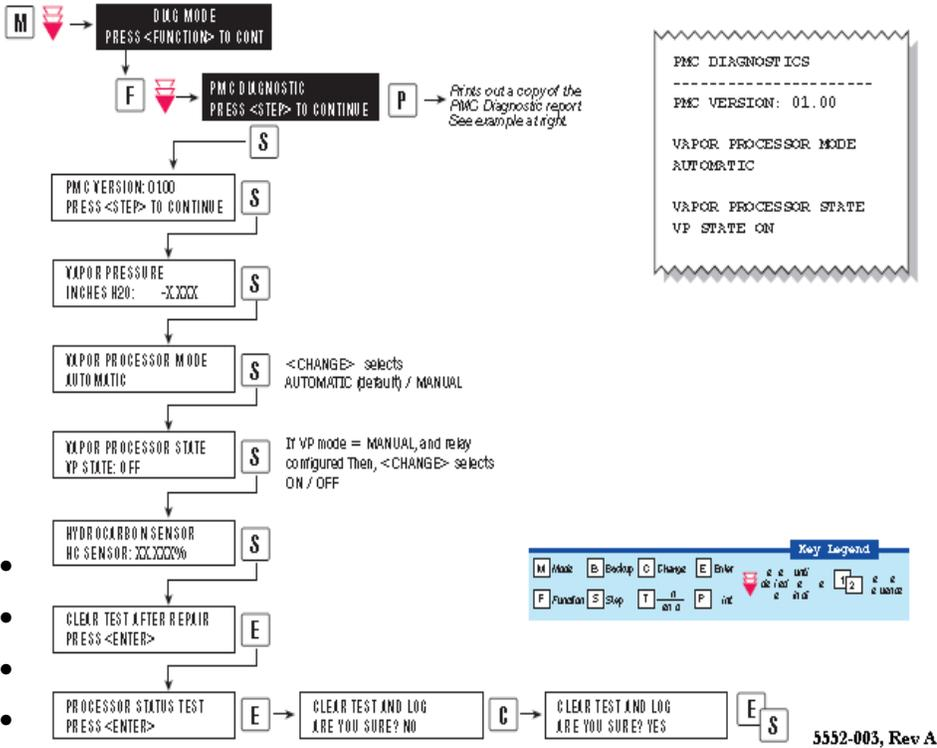
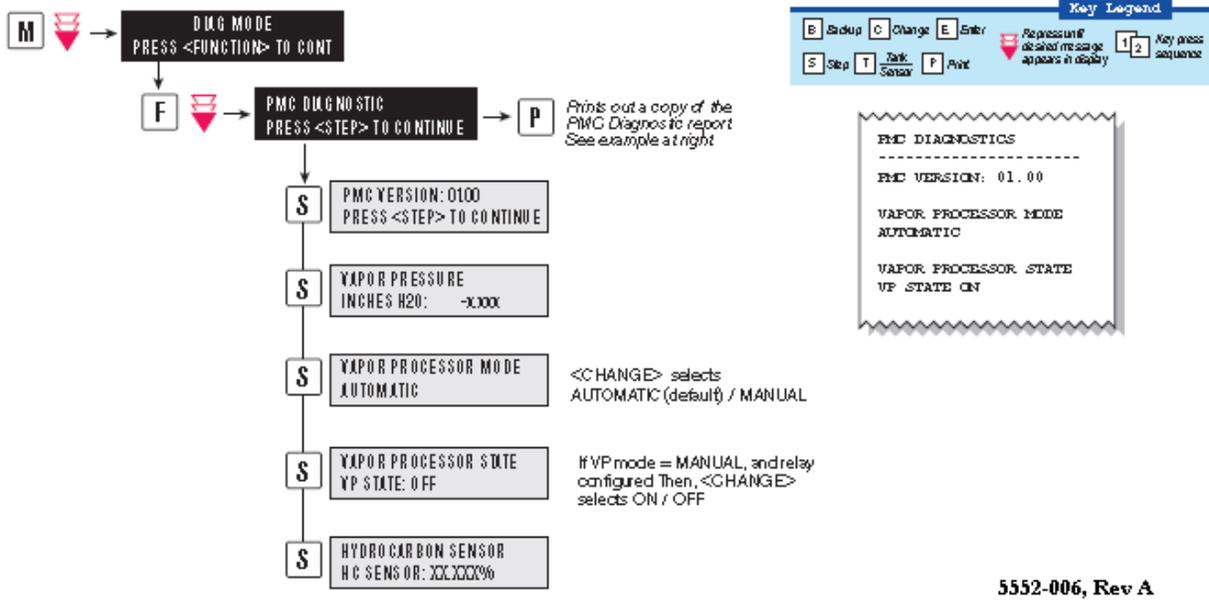

Figure 12: PMC Diagnostic Menu with PMC Software
Figure 13: PMC Diagnostic with ISD Software
- Follow the steps at the TLS console to put the TLS-350 in the Manual “OFF” Mode, as shown in **Figure 12** for the PMC Diagnostic Menu and **Figure 13** for the ISD Diagnostic Menu.
- Put the TLS-350 in the Manual **OFF mode** as shown in the Diagnostic Menus (**See Figure 12 or Figure 13**).
- Put the *Processor* in the manual **ON Mode** at the TLS as shown in the diagnostic menu in **Figure 12 or Figure 13**.